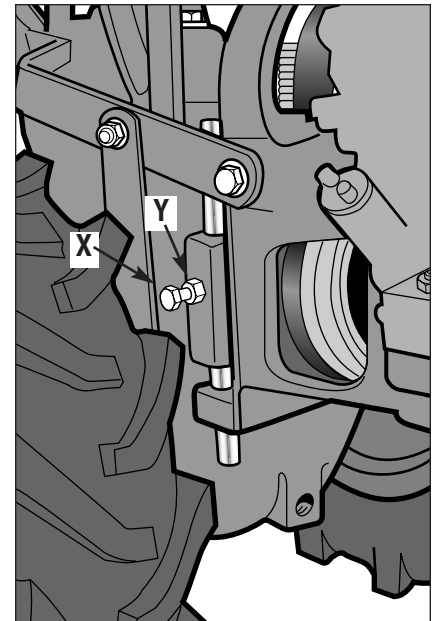

Fig. 14
- d.) Unlock the two engine mounting bars by first backing off each screw (X, Fig. 14) no more than 1/4-turn. Then, using two wrenches, hold each screw to prevent it from turning and tighten the jam nuts (Y, Fig. 14) securely against the side of the motor mount.